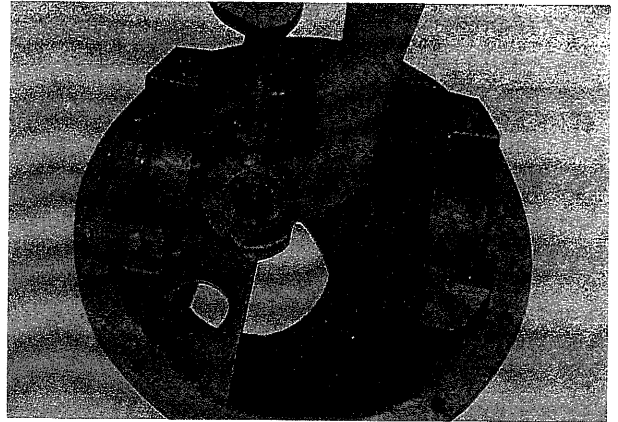

Fig. 64
- 7) Remove securing bolts and take off pinion pilot bearings together with retainer from diff. carrier. (Fig. 64)